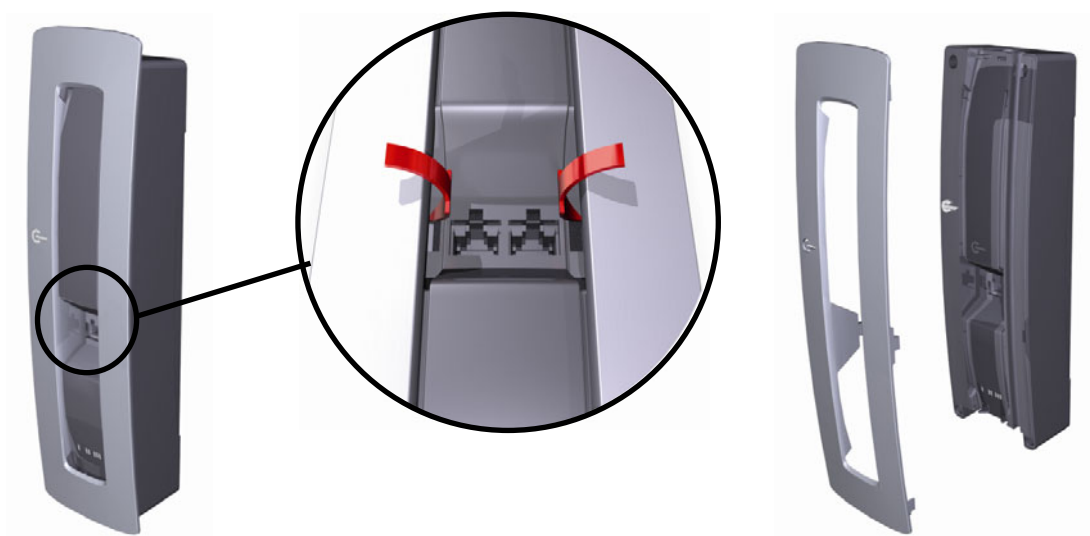

Figure 16 Mounting the Motion Manager 2/3 control unit
- 1 Press on the inside of the control unit's faceplate (as shown in Figure 16) and then pull the faceplate away from the control unit.